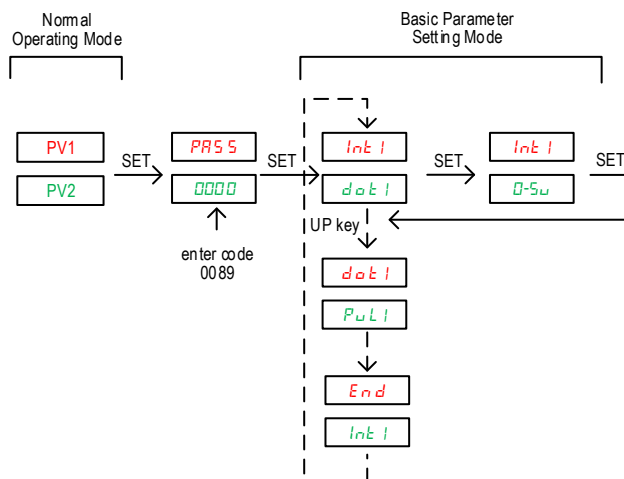

Figure 5. Schematic diagram of how to set Basic Parameters.
**D.1.b) The Procedure of Setting Basic Parameters** (see Figure 5).